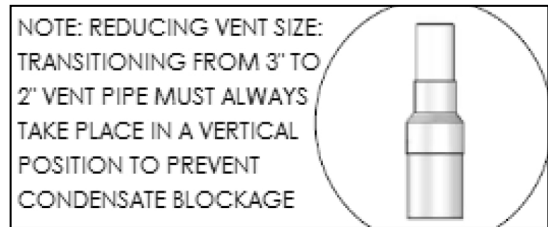

Figure 21 - Transitioning from 3" to 2" Vent Pipe
- For 2" installations, install the reducing coupling in a vertical section of pipe. At least a 6" length of 3" pipe MUST BE INSTALLED before reducing to 2". See Figure 21.